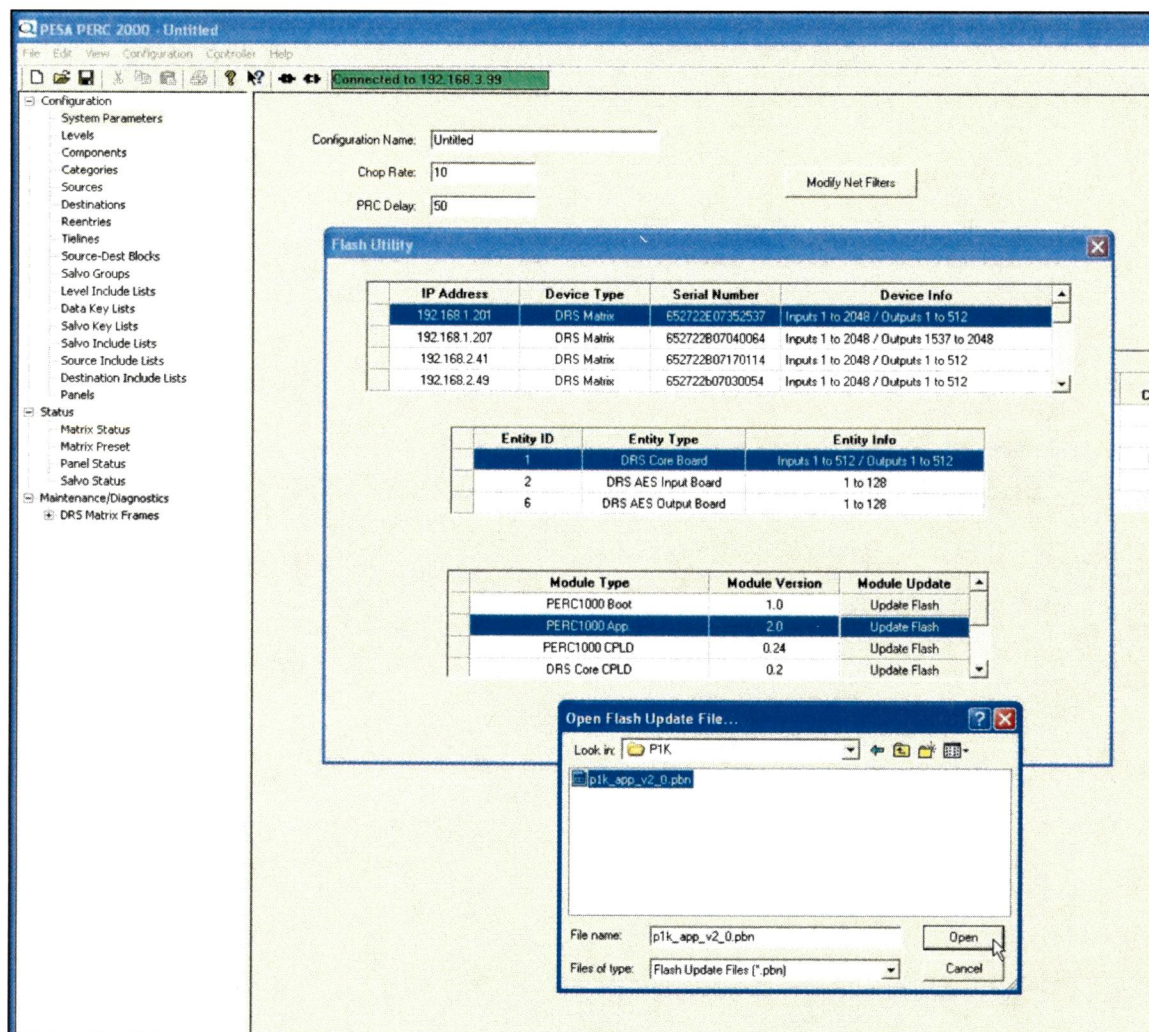

Figure 25. Open Flash Update File Browse Box
7. The Open Flash Update File window is displayed, Figure 25. Browse to the folder named P1K that you created in Paragraph 4. Locate and click on the file named **p1k_app_v2_0.pbn**. The file will appear in the File Name box. Click the **Open** button on the window.